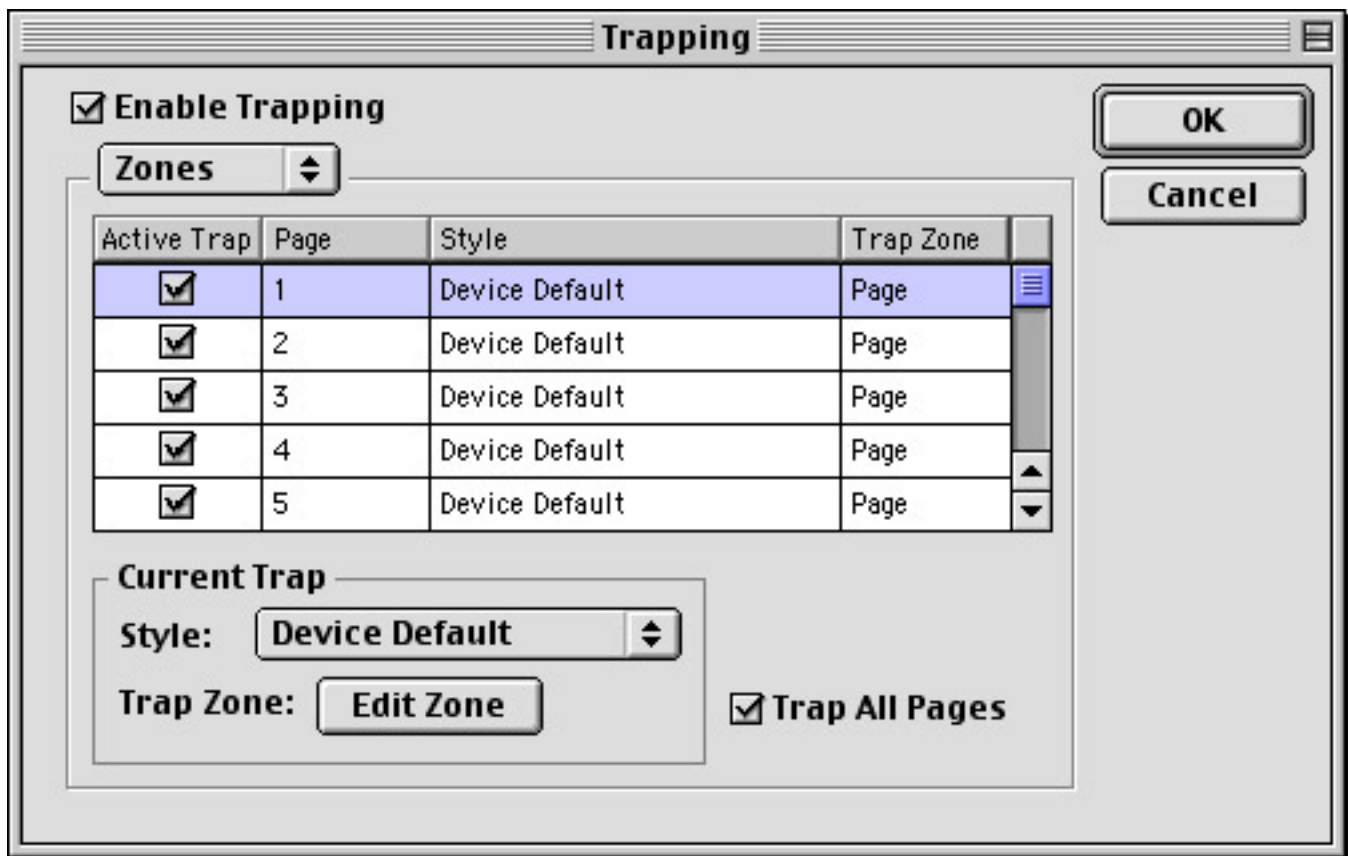

FIG. 5: The Trapping dialog box.
- Adobe in-RIP Trapping (FIG. 5). The trapping tool allows the user to specify the trapping specifications for individual pages and regions for jobs that will be output on devices driven by an Adobe PostScript 3 RIP that uses Adobe in-RIP Trapping.